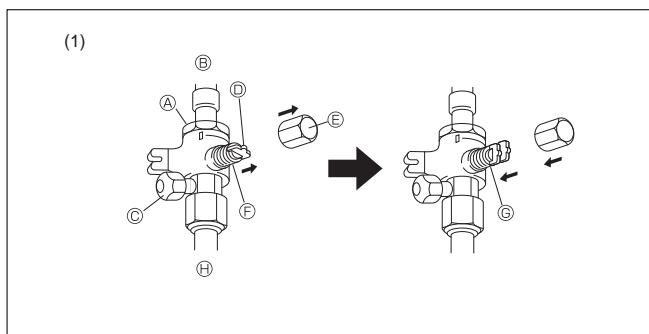
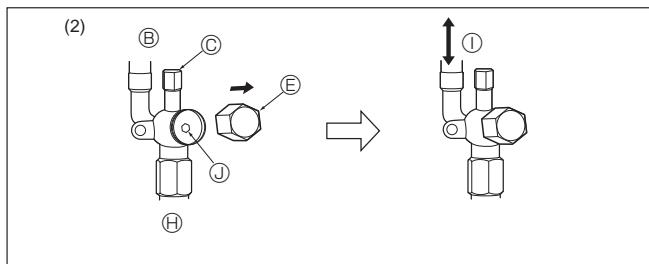

Fig. 5-8
Fig. 5-9
(1) Gas side (Fig. 5-8)
- ① Remove the cap, pull the handle toward you and rotate 1/4 turn in a counter-clockwise direction to open.
- ② Make sure that the stop valve is open completely, push in the handle and rotate the cap back to its original position.
(2) Liquid side (Fig. 5-9)
- ① Remove the cap and turn the valve rod counterclockwise as far as it will go with the use of a 4 mm [3/16"] hexagonal wrench. Stop turning when it hits the stopper.
- ② Make sure that the stop valve is open completely and rotate the cap back to its original position.